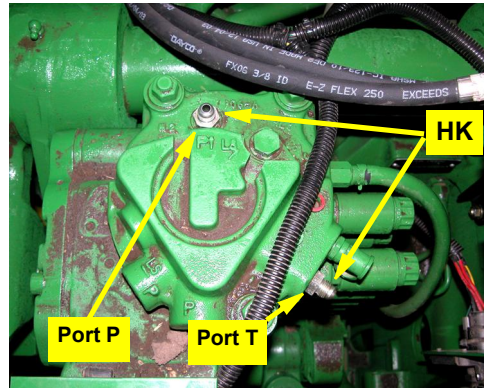

Figure 5a-i: Installed fittings at P and T test ports
- a. Remove test port fittings labeled **P** and **T** from the applicable top plate on the tractor hydraulic remote and install adapter fittings **HK** in both locations (Figures 5a-i to 5a-iii).